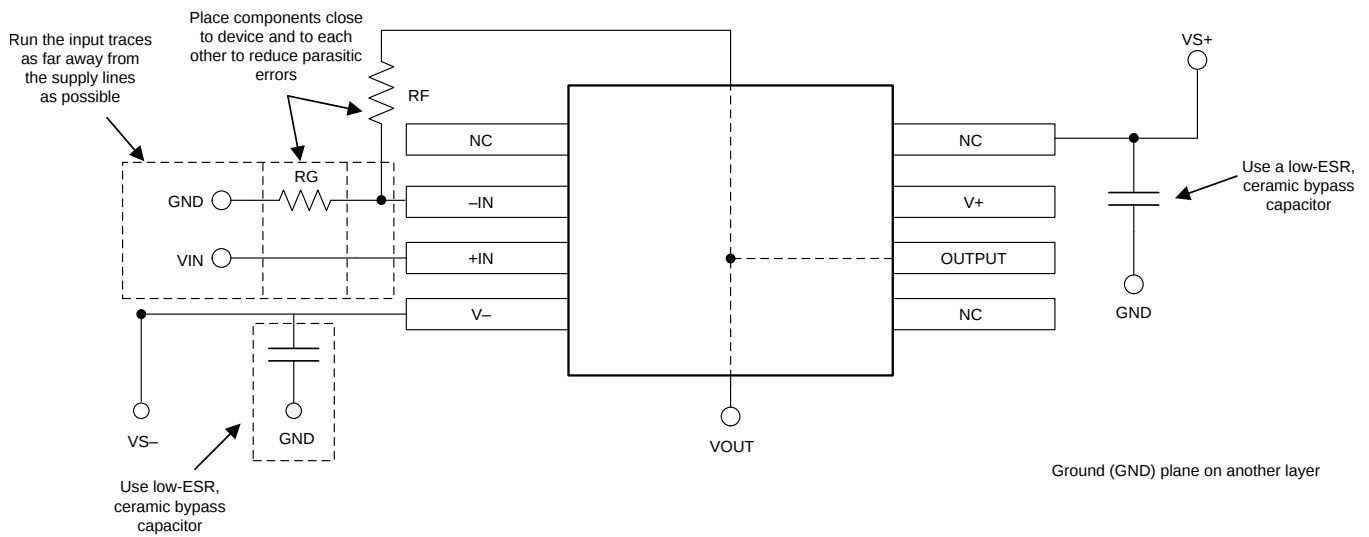

图 34. Op Amp Board Layout for a Noninverting Configuration
- Place the external components as close to the device as possible. As illustrated in Figure 34, keeping  $R_F$  and  $R_G$  close to the inverting input minimizes parasitic capacitance.